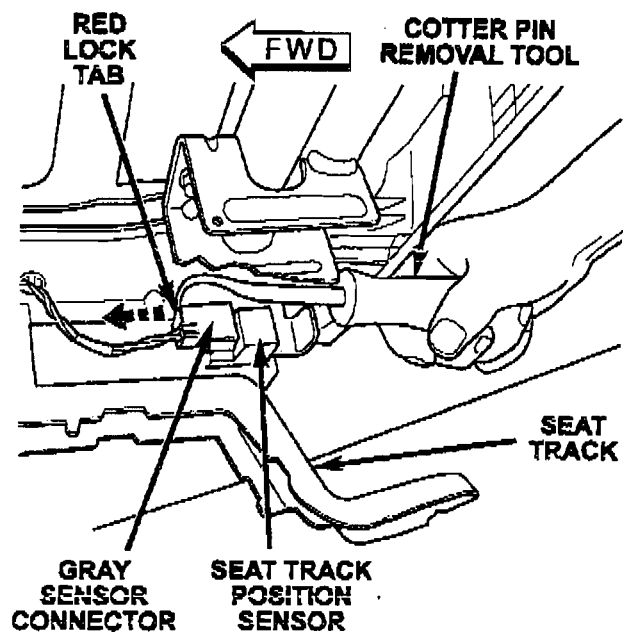

Figure 2 – Viewed from Under Seat
5. For convertible models, locate the seat track position sensor on the seat track. Use a cotter pin removal tool (Snap-on CP3B or equivalent) to push the red lock tab forward on the gray electrical connector (Figure 2).